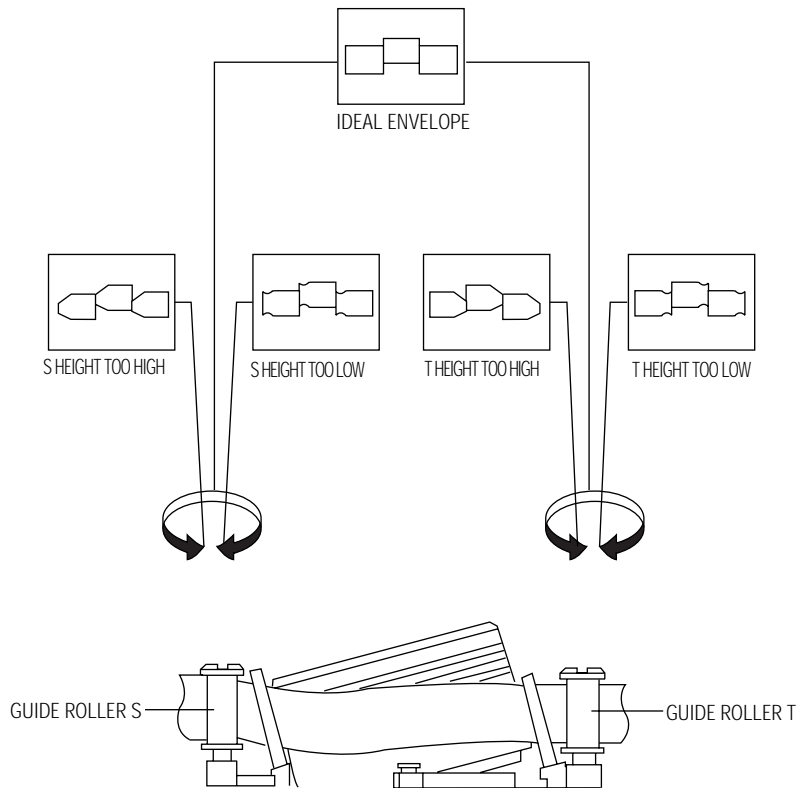

Fig. 6-11 Guide Roller S, T Height Adjustment
- 8) Turn the guide roller heads with a flat head (🔩) driver to obtain a flat video RF envelope as shown in Fig. 6-11.